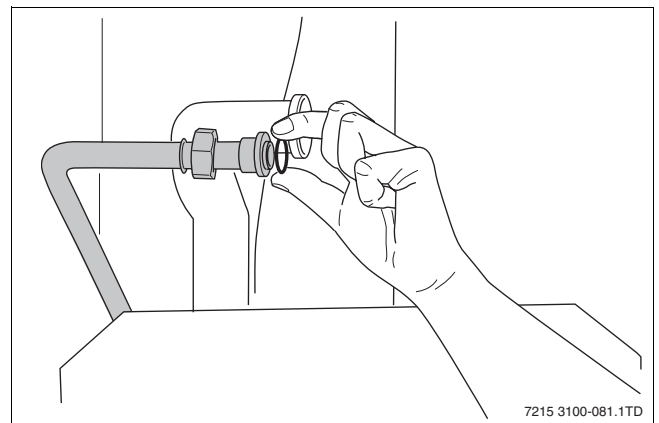

Fig. 66 Replace the flat seal of the gas pipe
- Replace the flat seal between the gas pipe and the gas air unit (→ fig 66.)